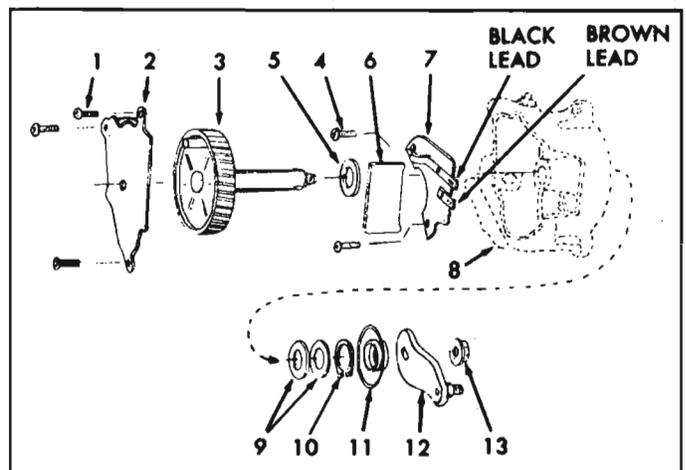

Fig. 8-128—Wiper Gear Box—Exploded View
Disassembly**Gear Box (fig. 8-128)**
Refer to Figure 8-128
1. Resolder leads as required. Terminal board points of connection are called out on Figure 8-128.
2. Install terminal board (7) and shield (6) in housing.
3. Assemble spacer washer (5) on gear shaft (3) and install gear in housing.